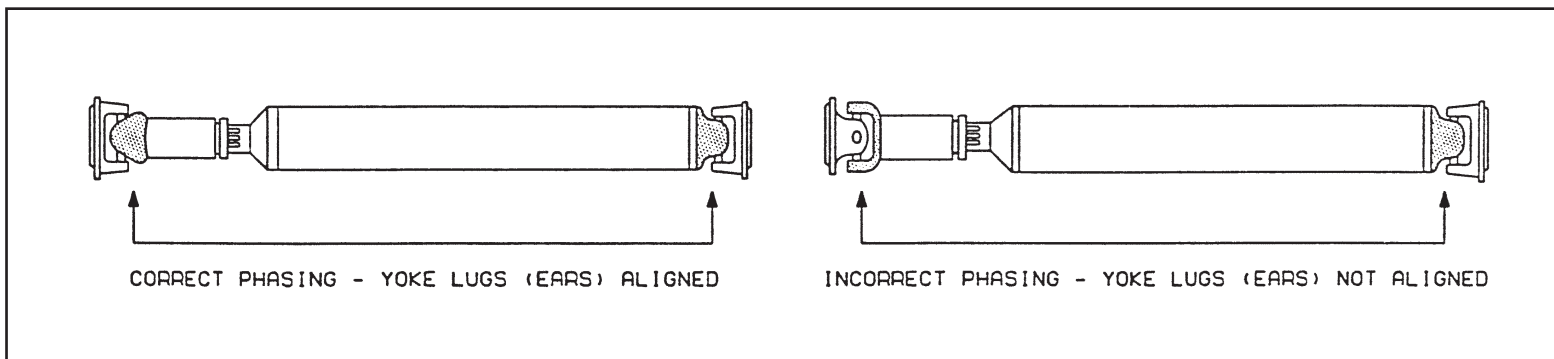
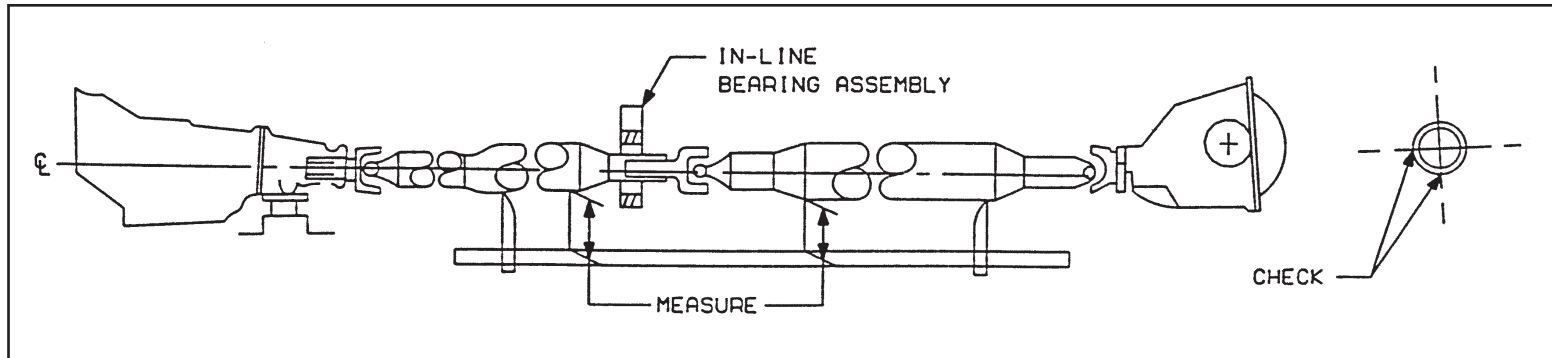

Figure 15
Figure 16
- SVMs should devise a gauge by which to measure driveshaft alignment angles for front and rear shafts. For smooth operation, the front must align with the rear shaft in both side and plan views (Figure 15). Check for this vertically and along the horizontal center line (Figure 16).
When an ordinary universal joint is operated at an angle, the driven yoke fluctuates slightly in speed as the joint rotates. That is, although the driving yoke rotates at a constant speed, the driven yoke speeds up and slows down twice per revolution. This fluctuation of the driven yoke is in direct proportion to the angle through which the universal joint is operating. The greater the angle, the greater the fluctuation. This fluctuation and resulting vibration can be eliminated by phasing the universal joints at each end of the shaft so that the alternate acceleration and deceleration of one joint is offset by equal and opposite accelerations of the other joint. Correct phasing is achieved by aligning the universal joint lugs on each end of the shaft (refer back to Figure 15).
To allow the propshaft to operate as smoothly as possible, make sure that the input universal joint is approximately equal and opposite to the output universal joint angle. That is, the downward angle (a) of the transmission output shaft, relative to the driveshaft axis must be equal to the downward angle (b) of the pinion as shown in Figure 16. (**Note:** Angles shown are exaggerated for clarity.) To allow the best compromise for the pinion angle as it changes because of vehicle loading, acceleration and ride motion, these angles are determined and set at the factory. This eliminates the need for adjustment by the SVM.